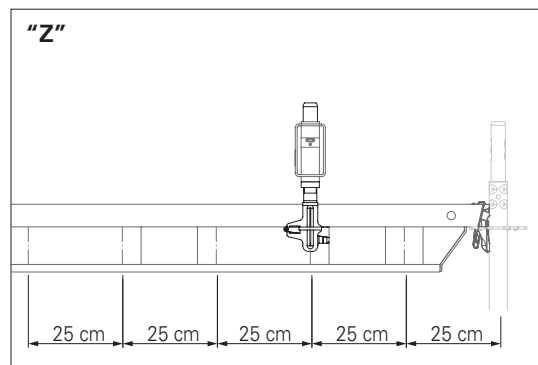

Fig. A8.02a
2. Fit the ledger-to-ledger coupler (**39**) onto the horizontal ledger (**3**) in 25-cm increments. (Fig. A8.02a)